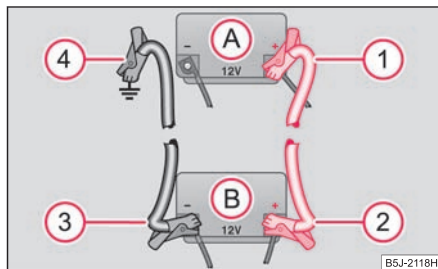

Fig. 200 Jump-starting using the battery from another vehicle: A - flat vehicle battery, B - battery providing current
- Attach one end (1) to the positive terminal ⇒ fig. 200 of the discharged battery (A).
- Attach the other end (2) to the positive terminal of the battery supplying the power (B).